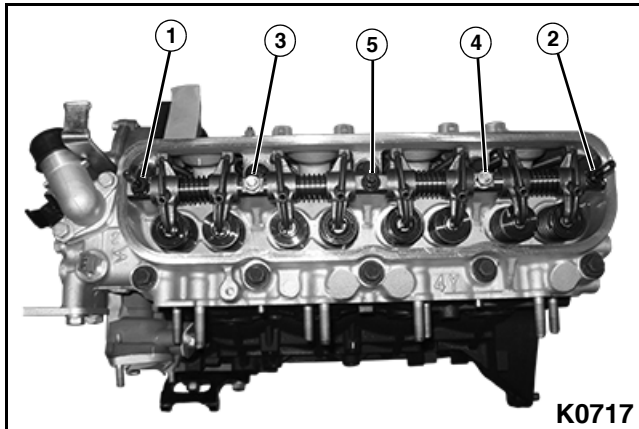

Figure 3-126: Rocker Arm Fastener Sequence
1. Loosen the rocker arm shaft fasteners in steps using sequence shown. Repeat this sequence until the pressure from the valve springs has been released. **See Figure 3-126.**